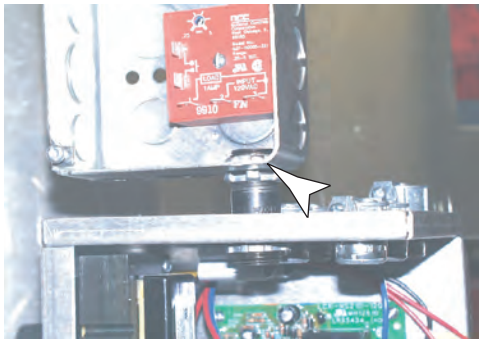

Fig.5
5. Install Outlet Box (item 13) onto nipple as shown (Fig.5) using 1/2" Electrical Nut.